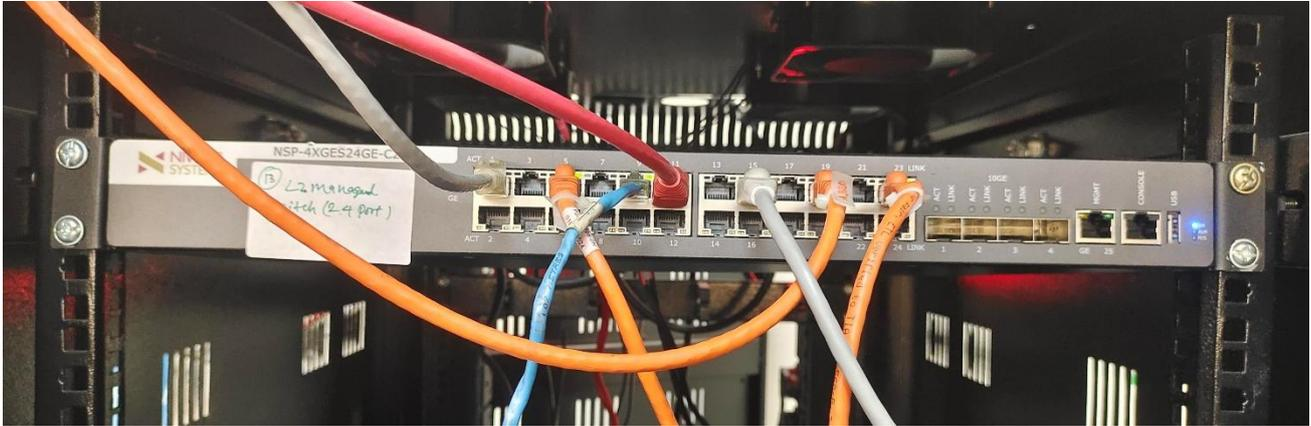

Figure 11 L2 switch with blue LED on
3. Ensure gNodeB, T1, T2, firewall, L2 switch are turned on properly by checking their LEDs (refer **Figure 6, Figure 7, Figure 9, Figure 10, Figure 11**)
1. Ensure all the devices are turned on, like T1, T2, Firewall, gNodeB and L-2 switch (refer **Figure 6, Figure 7, Figure 9, Figure 10, Figure 11**) by checking the LED status on respective devices